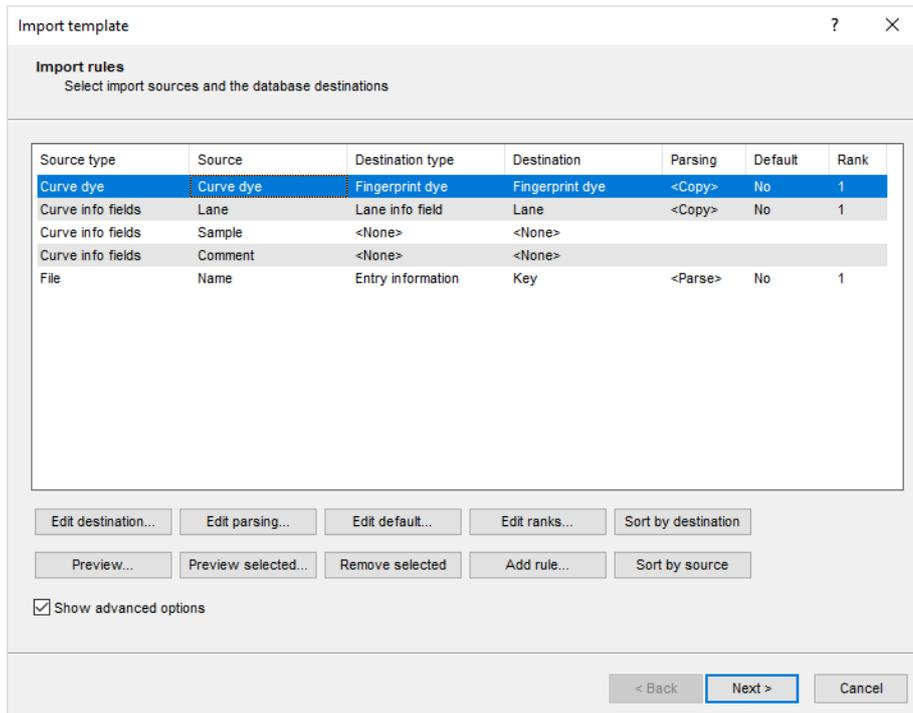

Figure 4: Import rules.
5. Press the **Create new** button to call the *Import rules* dialog box (see Figure 4).
The *Import rules* dialog box should now look like Figure 4.